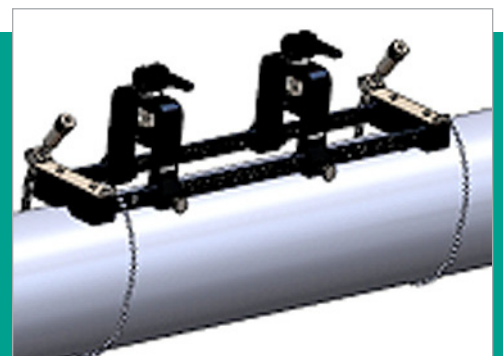

Figure 14: Fixture with chains installed
7. Repeat the previous steps to install the chain at the opposite end of the clamp-on fixture (see *Figure 14* below). The clamp-on fixture should be firmly mounted to the pipe, but it should still be loose enough to allow final alignment.